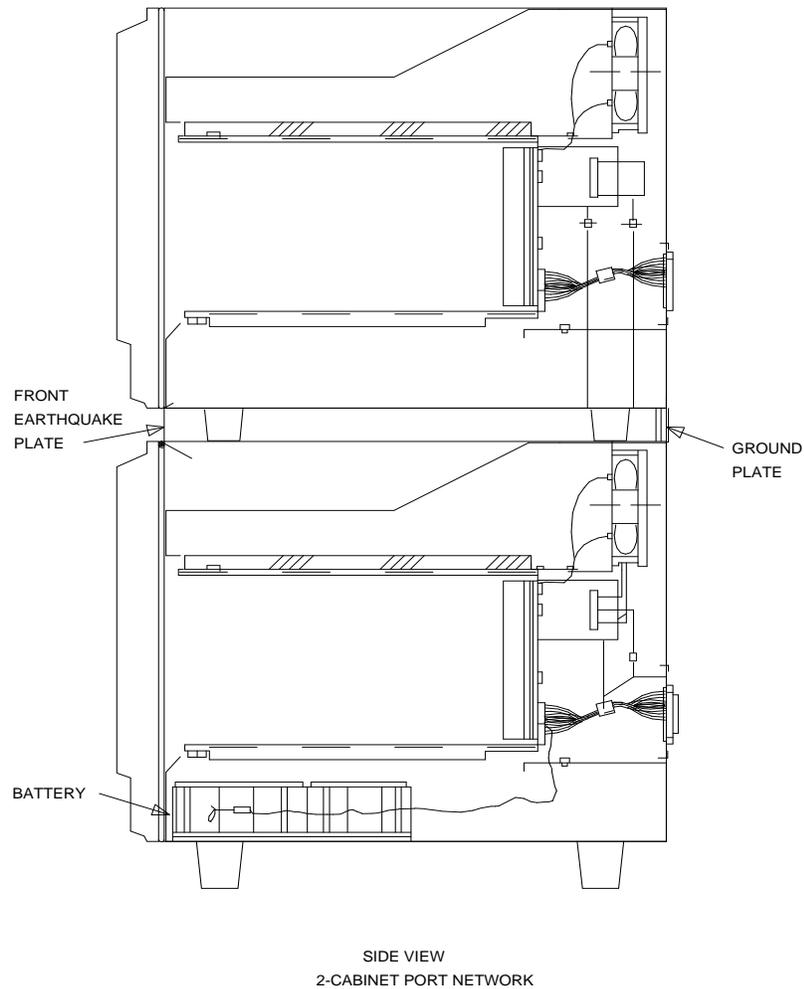

Figure 3-38. Locations of Ground Plate, Earthquake Front Plate, and Battery
6. At the front of the cabinet, line up the earthquake front plate with the holes at the top and bottom of the cabinet (see Figure 3-38). Install the eight screws, but do not tighten.